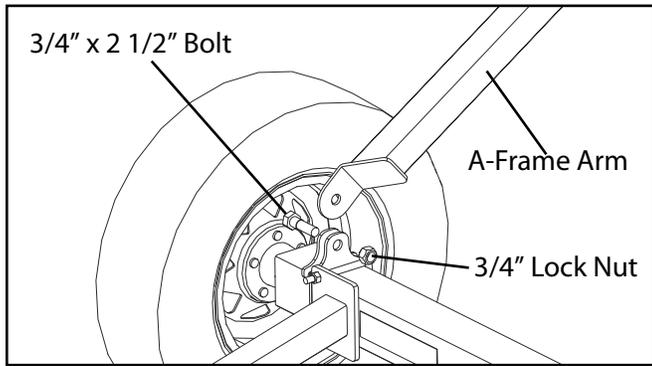

FIG. 3-12. A-Frame Arms to Axle Assembly
7. Attach the A-Frame Arms to the Axle using a 3/4" x 2" bolt and lock nut. Do not fully tighten the nuts, the arms must be able to rotate. See Fig. 3-12.